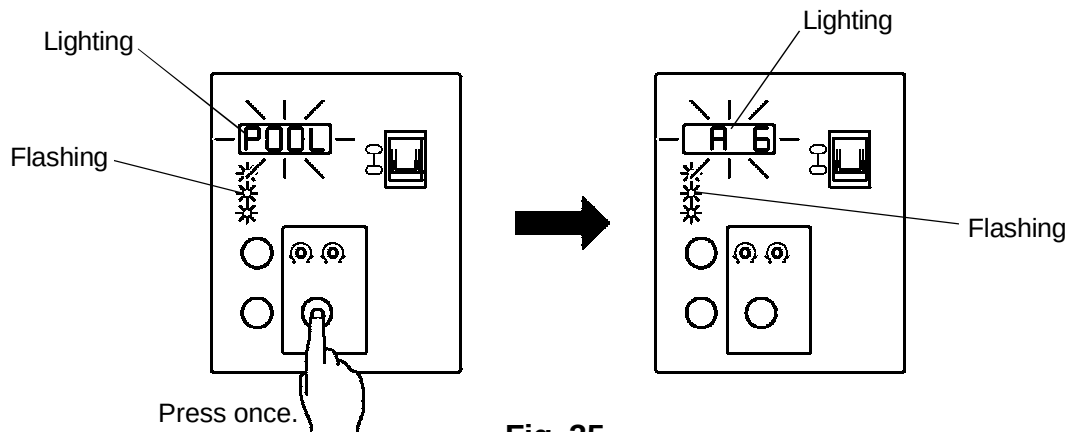

Fig. 35
- 14) When the desired mode appears in the Display Window, press the Set Button once. The mode displayed in the Display Window will stop flashing momentarily. Check that "A6" appears in the Display Window. See Fig. 35.